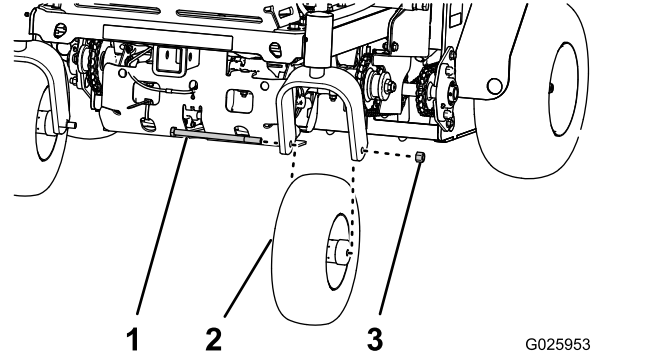

Figure 26
3. Remove the wheel nut and bolt, and remove the caster-wheel assembly from the fork (Figure 26).
1. Align the hole in the axle of the caster-wheel assembly between the holes in the fork of the caster (Figure 26).
2. Secure the to the fork with the wheel nut and bolt (Figure 26) that you removed in step 3 of Removing the Caster-Wheel Assembly (page 30).